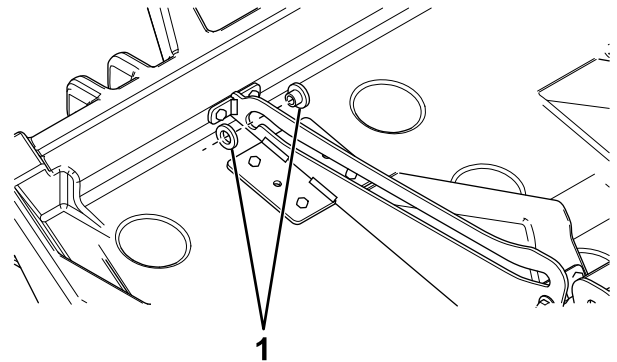

Figure 19
1. Snap a roller onto the slot in each of the tracks (Figure 19).